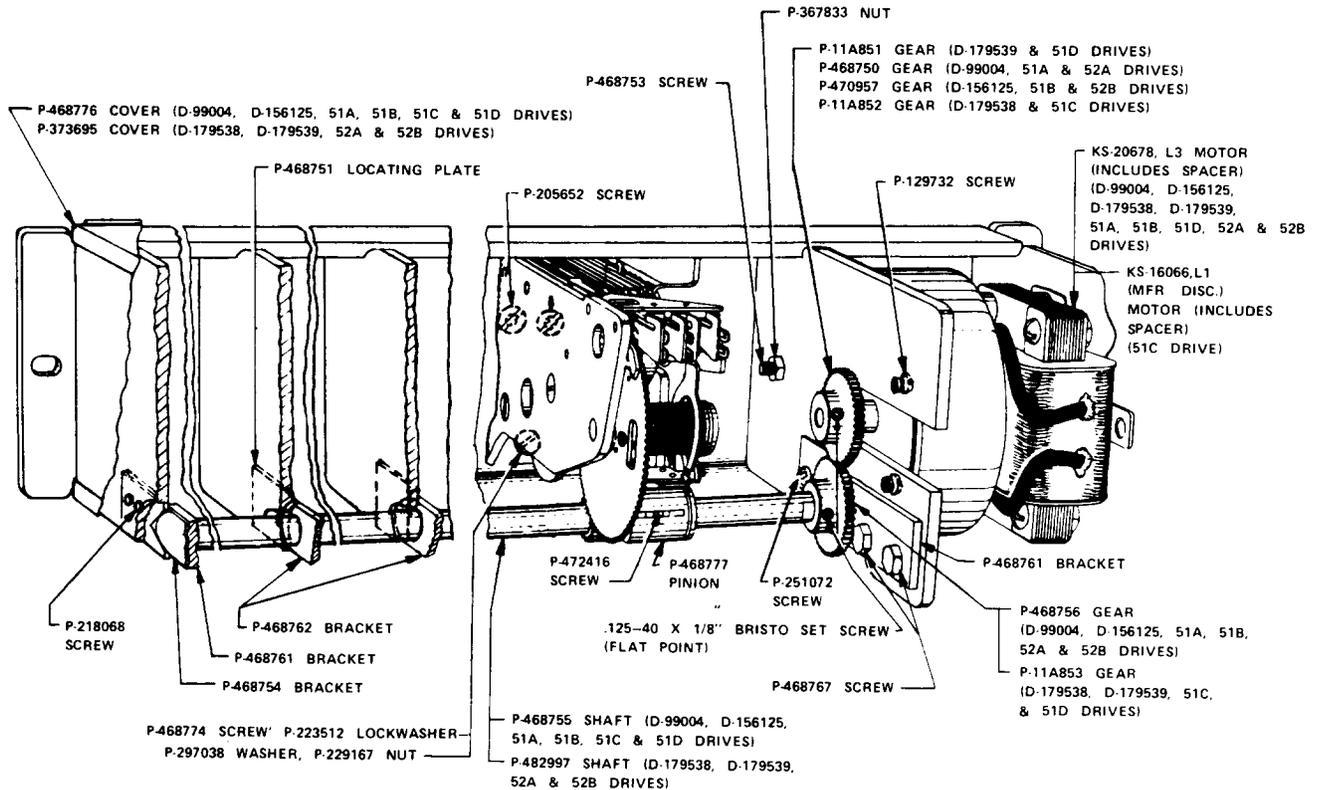

Fig. 3—Timer and Drive
- (1) To show that the KS-16066, L1, motor in Fig. 3 is rated Mfr Disc., with no replacement
- (2) To show that the KS-7780 motor is rated Mfr Disc., replaced by the KS-20678, L3, motor
- (3) To change the P-468723 armature adjusting screw to 841061724 armature adjusting screw
- (4) To revise the List of Tools
- (5) To update to standard format.